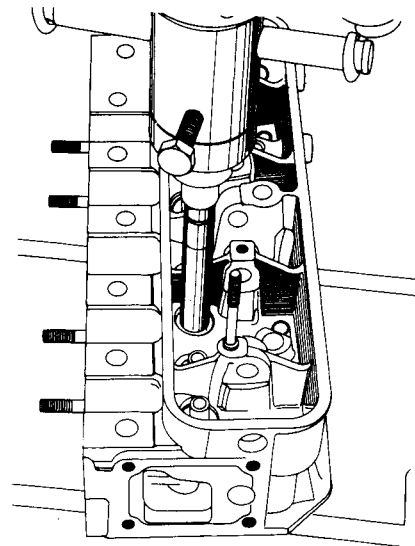

FIGURE 10. PRESSING OUT VALVE GUIDE
3. To remove valve guides, press out from top of cylinder head. Original outside diameter of guide is .433 inch (11 mm). Oversizes are available (Figure 10).